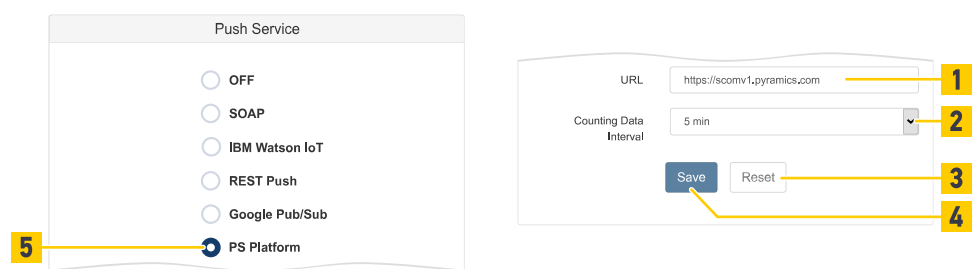

Fig. 117: Push Service - PS Platform
To enable push service to the PS Platform activate PS Platform (Fig. 117 /5).
- To connect the sensor to the PS Platform enter the URL (Fig. 117 /1).
- To send accumulated counting data in these time frames set the Counting Data Interval (Fig. 117 /4).
- To go back to the last saved settings click the Reset button (Fig. 117 /3).
- To save all the settings in the device click the Save button (Fig. 117 /4).